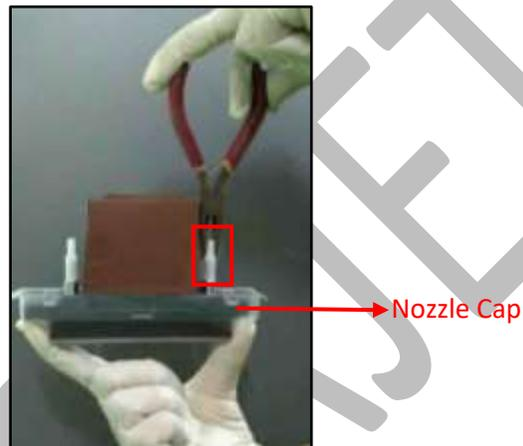

Fig 35: Removing the Ink Inlet Caps
Step 2: Fix the **Air Releasing pipe** on one end of the **Ink Inlet Tube** (Refer to Fig 35).
Step 3: Remove the **Nozzle Cap** from the Print Head (Refer to Fig 35).